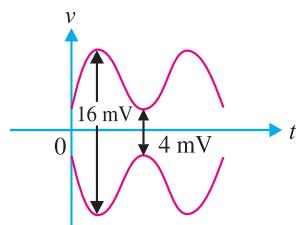

Fig. 16.5
**Solution.** Fig. 16.5 shows the conditions of the problem.